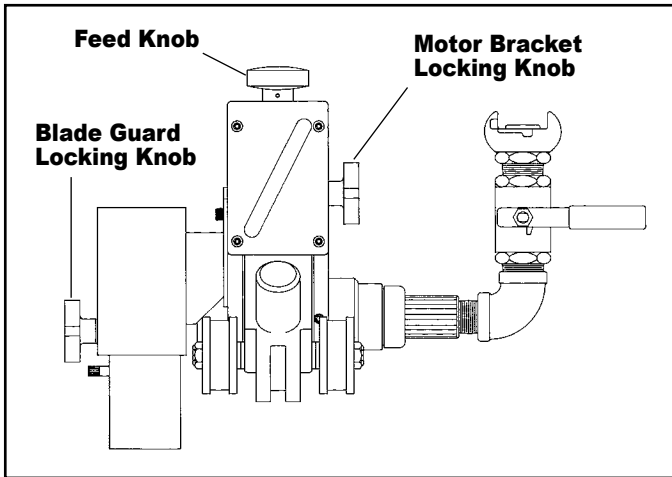

FIG. 4
1. Loosen motor bracket locking knob. (Fig. 4)
2. Retract motor bracket to uppermost position, by turning feed knob counter clockwise. (Fig. 4)
2. Turn cutter feed knob clockwise. (Fig.4) Lower motor and cutter close to, but not touching the pipe. Motor bracket locking knob should be tight, yet allow the bracket to slide.
- 2.* Knowing the thickness of pipe to be cut, turn the feed knob clockwise, (Fig. 4) until the pointer indicates the desired depth of cutter. Allow at least 1/4" of blade beyond depth of cut.
*Exception to this would be if the bevel cutter was being used for plastic, then the cutter would be engaged until the bevel cutter began cutting. At this point the depth gage pointer could be used to determine amount of bevel. Full engagement produces a 15/16" bevel. (Fig. 4)
3. Tighten motor bracket locking knob. (Fig. 4)
4. Tighten blade guard locking knob approximately 1/8" from pipe. (Fig. 4)